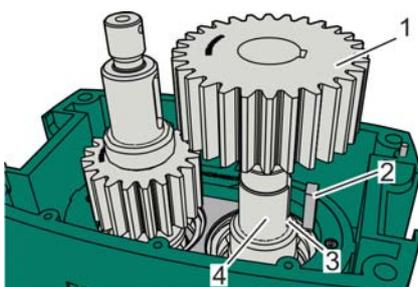

Fig. 139: Sliding the toothed wheel onto the cutter block shaft, example
16. ▶ Insert the lightly lubricated key (Fig. 139/2) into the keyway (Fig. 139/3) of the cutter block shaft (Fig. 139/4).
17. ▶ Slide the larger toothed wheel (Fig. 139/1), with the part number facing up, onto the cutter block shaft (Fig. 139/4).